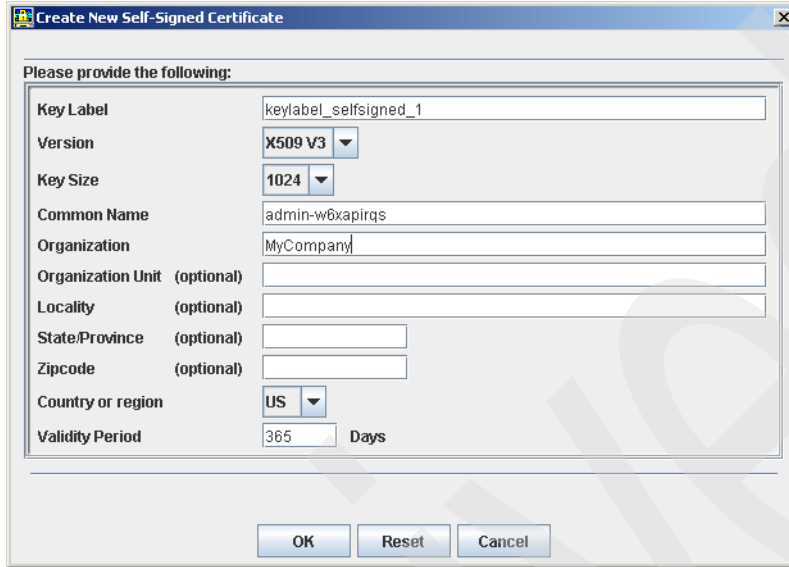

Figure 6-19 Creating self-signed key window
- The Create New Self-Signed Certificate window (Figure 6-19) opens. Specify a Key Label of your choice, but make sure that it does not contain any blanks. Select **X509 V3** from the Version menu, and **1024** from the Key Size menu. The Common Name field defaults to the computer name, but you can change it. Specify a value in the Organization field. Verify the Country or region and Validity Period fields. All other fields are optional. Click **OK**.